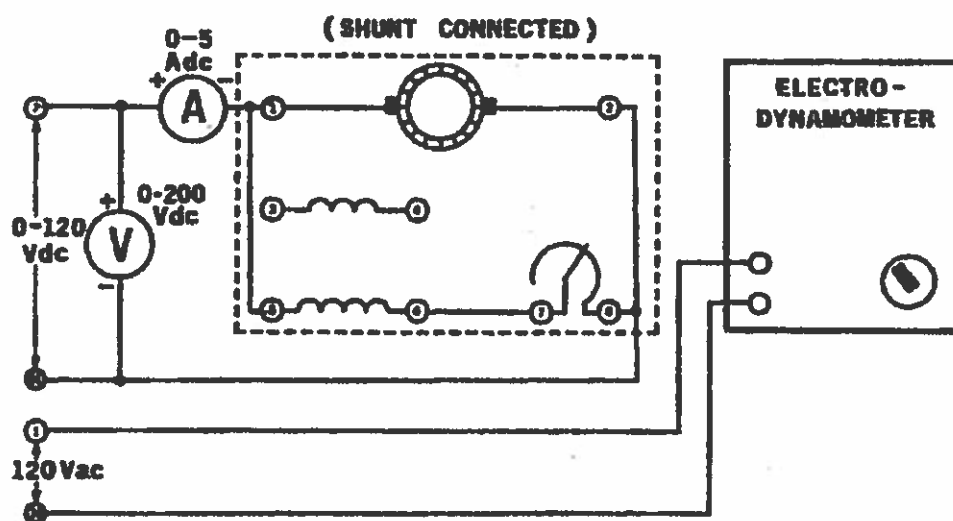

Figure 24-1.
1. Using your Power Supply, DC Motor/Generator, DC Voltmeter/Ammeter and Electrodynamicometer, connect the circuit shown in Figure 24-1.